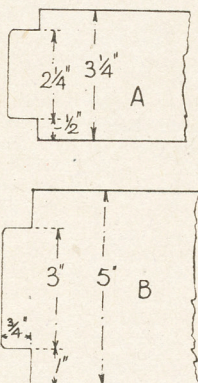

Fig. 3—The end tenons
It only remains now to mark and cut the back and floor. The diagram, Fig. 3, shows the correct way of setting out the open tenons, which fit into the recesses of the ends. The shelf (A) and the back (B) will, of course, be the same in length, and the tenons will be glued and screwed into their respective recesses. The ends of the tenons will project beyond the outer face of the ends and the extreme corners of them must be rounded neatly as shown.